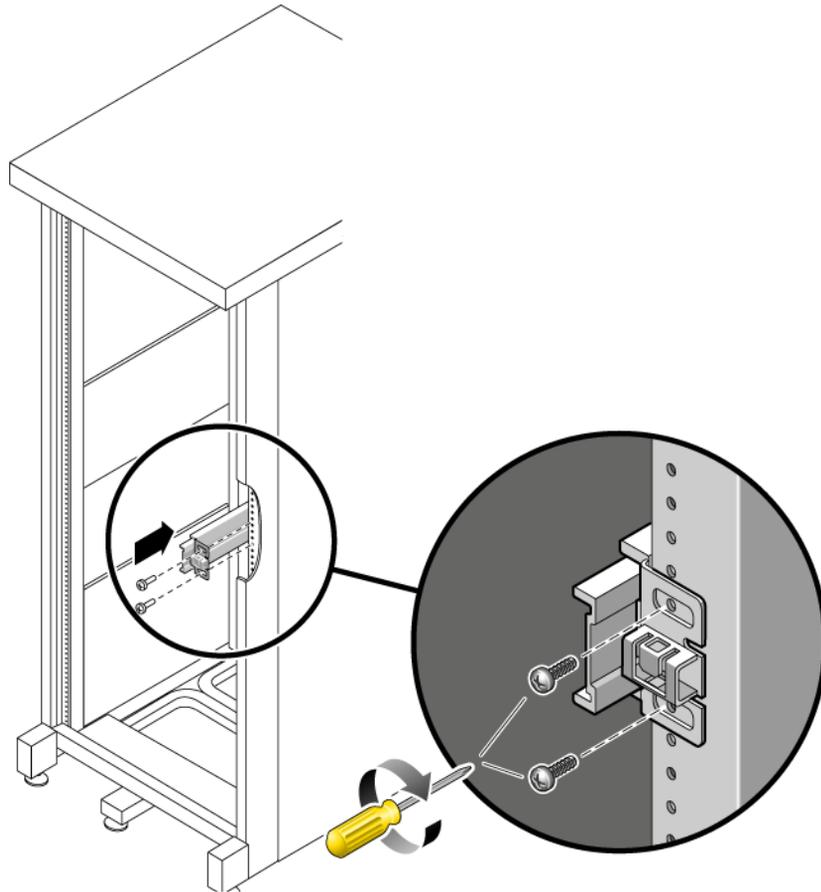

FIGURE 2-16 Mounting a Slide Rail
- a. **Attach the front of a slide rail to the right front rack post (FIGURE 2-16) using two screws. Do not tighten the screws yet.**